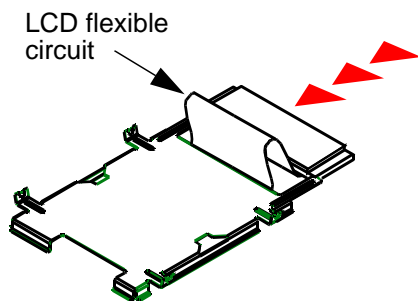

Figure 1-11. Slide In The Lightpipe
4. Fold the LCD flexible circuit (Figure 1-11). Make sure the LCD flexible circuit is outside.
7. Slide in the lightpipe (Figure 1-11).